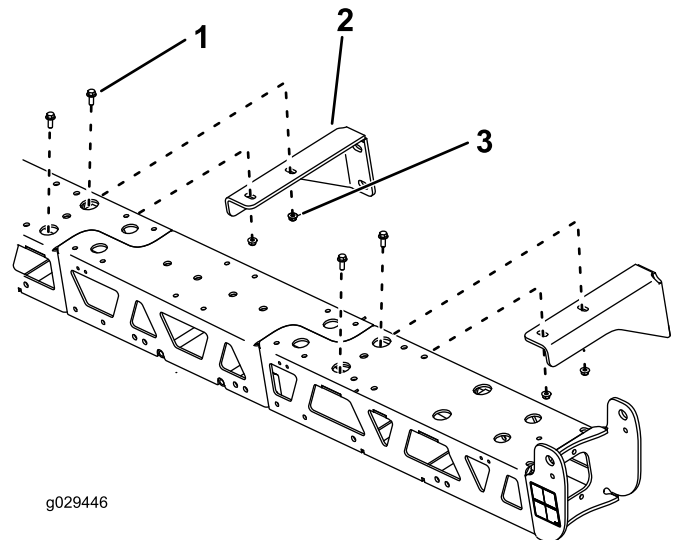

Figure 12
4. Install the mounting brackets, using the hardware previously used to mount the brackets, as shown in Figure 12.